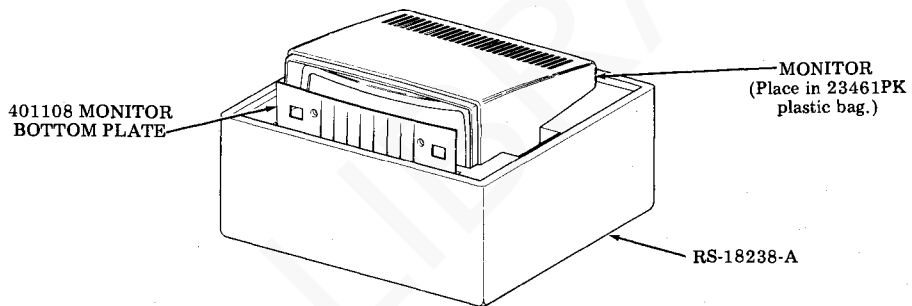

Fig. 6
- Step 3. Position monitor and bottom plate in position shown in Fig. 6. Position cover and secure with a band of pressure sensitive reinforced tape, as illustrated in Fig. 7.